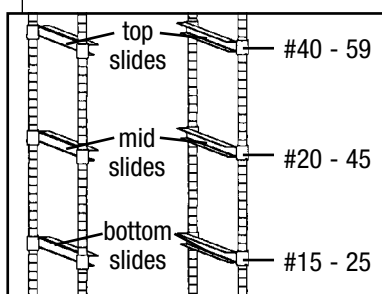

Figure 3a - approximate slide locations
**Repeat Steps 1 through 3 to install the remaining mid and top rows of slides, referring to *Figure 3a* for approximate slide location.**